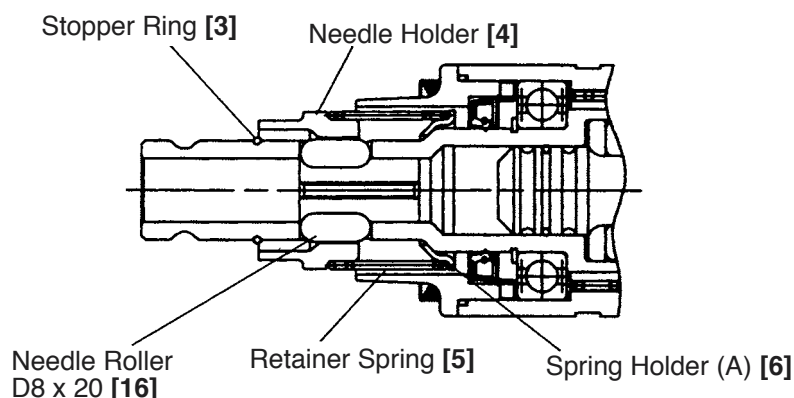

Fig. 13
Remove the Stopper Ring **[3]** using a retaining ring puller. Then the Needle Holder **[4]**, two Needle Rollers D8 x 20 **[16]**, Retainer Spring **[5]** and Spring Holder (A) **[6]** can be removed from the Retainer Sleeve **[17]** (Fig. 13).
(2) Disassembly of the piston and the striker